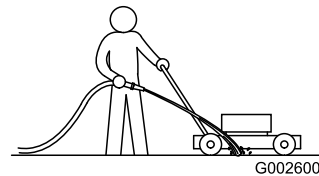

Figure 15
3. With the engine running and the blade engaged, spray a stream of water in front of the **right**, rear wheel (Figure 15).